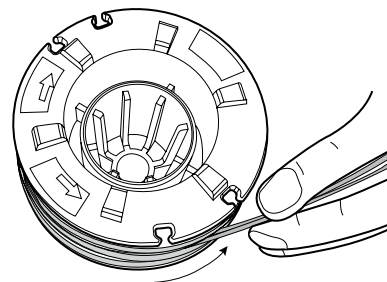

Fig. 16
5. Wrap the line evenly and firmly around the spool (Fig. 16).